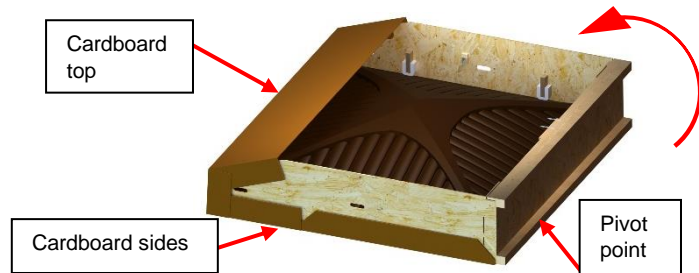

Figure 34
- 15) With the help of another person, gently lay the crate horizontally on its back by using the pivot point. (Figure 34) There should be one person on each side of the crate.
- 16) Remove the cardboard top and sides by simply unfolding them on the ground. (Figure 34)